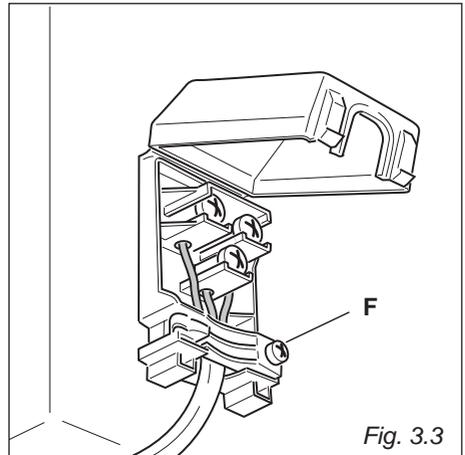

Fig. 3.3
- Open the cable gland by unscrewing screw “F” (fig. 3.3), unscrew the terminal screws and remove the cable.